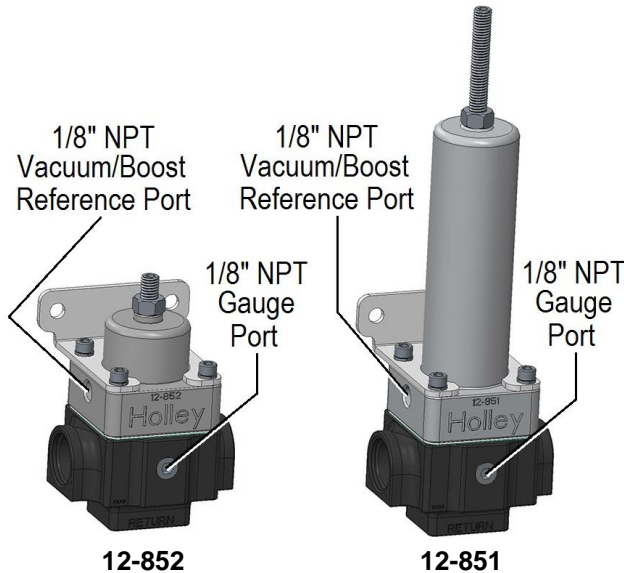

Figure 1
2. The above return style regulators have one discharge (out) port, one inlet port, one return port and one gauge port. See **Figure 1**. (See chart above for fitting sizes).